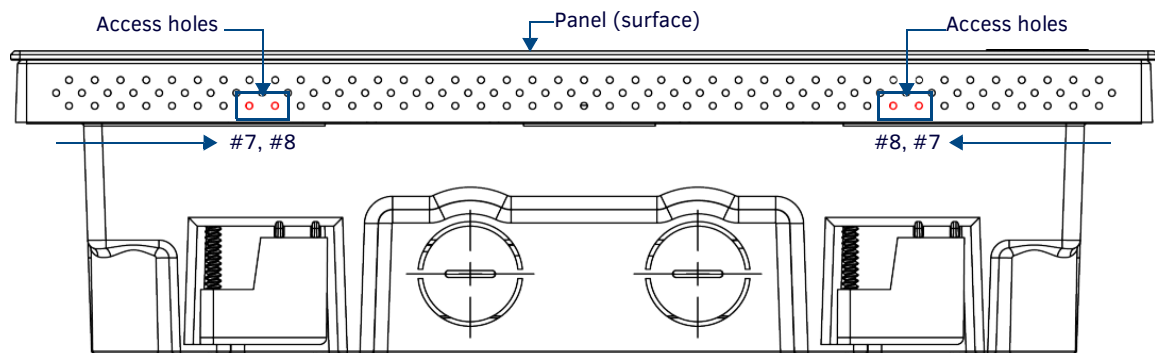

FIG. 48 Bottom View (Landscape) or Right-Side View (Portrait) of the MXD-1001 showing access holes in molding
2. On the bottom (Landscape) or right side (Portrait) of the MXD-1001, locate the **seventh and eighth** ventilation holes from each edge, on the row closest to the Backbox (FIG. 48):
2. On the bottom (Landscape) or right side (Portrait) of the MXD-701, locate the **fifth** ventilation holes from each edge, on the row closest to the Backbox (FIG. 48):